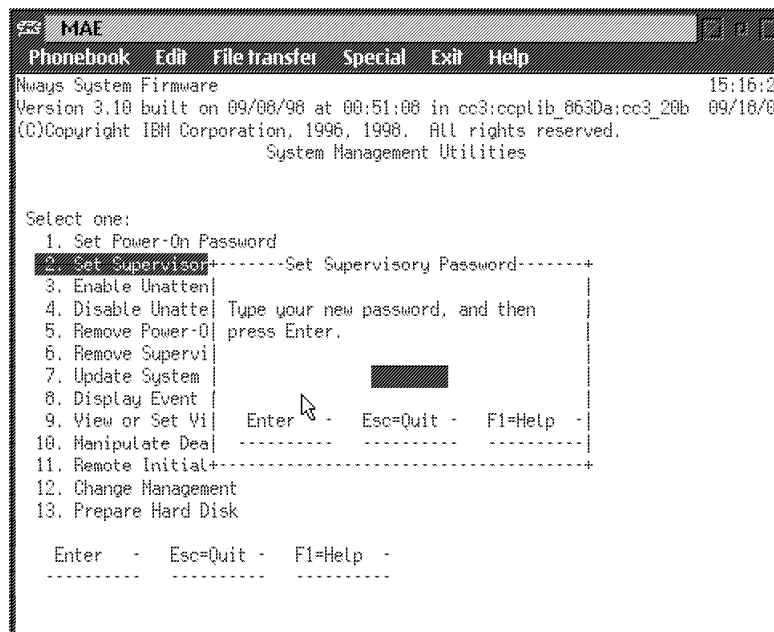

Figure 5-8. Set Supervisory Password Panel
- 1 Select **2. Set Supervisory Password** from the utilities panel. The Set Supervisory Password panel is displayed (Figure 5-8).